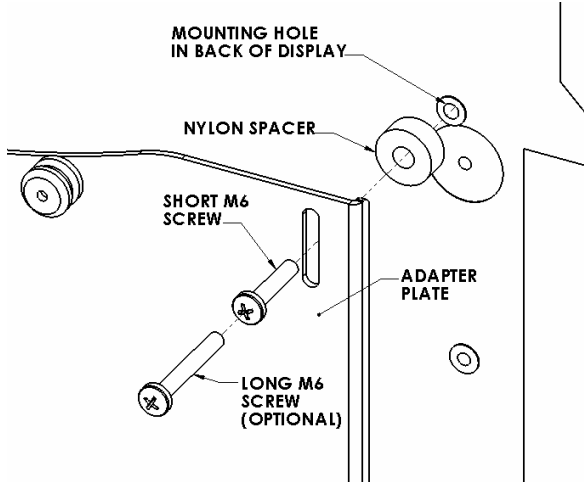

Figure 4
2. **Bracket Installation:** Attach bracket to back of display using the M6 screws and nylon spacers (see Figure 4 & Figure 5). If needed use the two longer M6 screws for models with recessed top mounting holes. The vertical slots of bracket can be used for any height adjustment that may be needed. Do not over tighten screws.